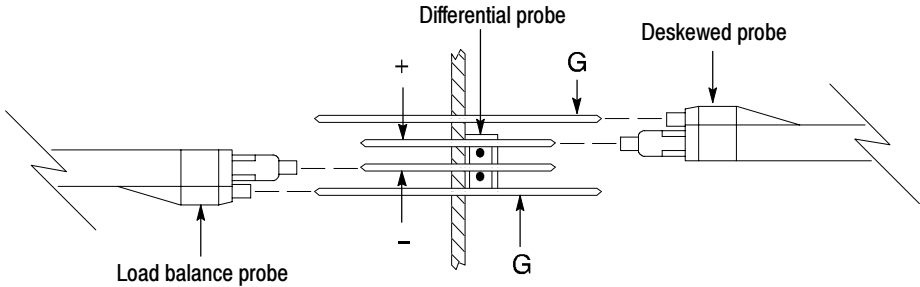

Figure 10: P6249 and P7240 load balance detail without tips
1. Install the single-ended probe (load balance probe) to the vacant pins. See Figures 10 and 11 on page 11.